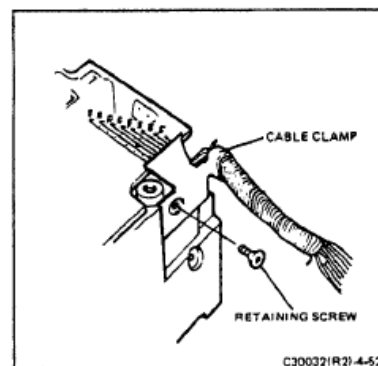

FIGURE 4-52 MULTI-WIRE CABLE CLAMP
- b. Remove the cable clamp retaining screw (Figure 4-52).